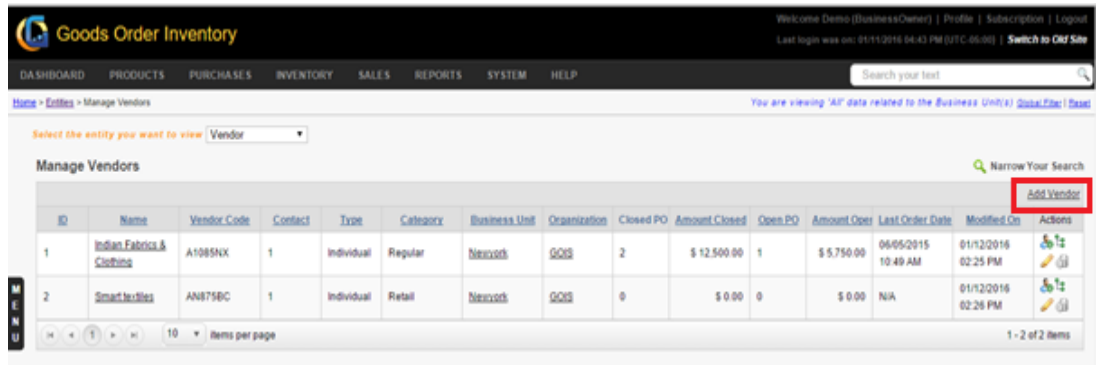

FIGURE 6.17.2
Step 1: Click on the Add Vendor link on the right corner as marked in (Figure 6.17.2).